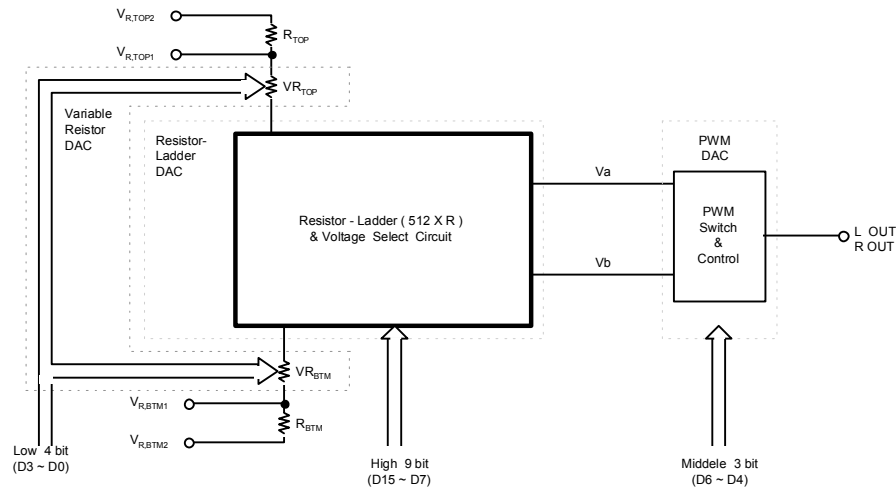

Fig. 1
2. D/A Conversion Circuit (see Fig. 1)
3. How to Use V_R (see Fig. 1)